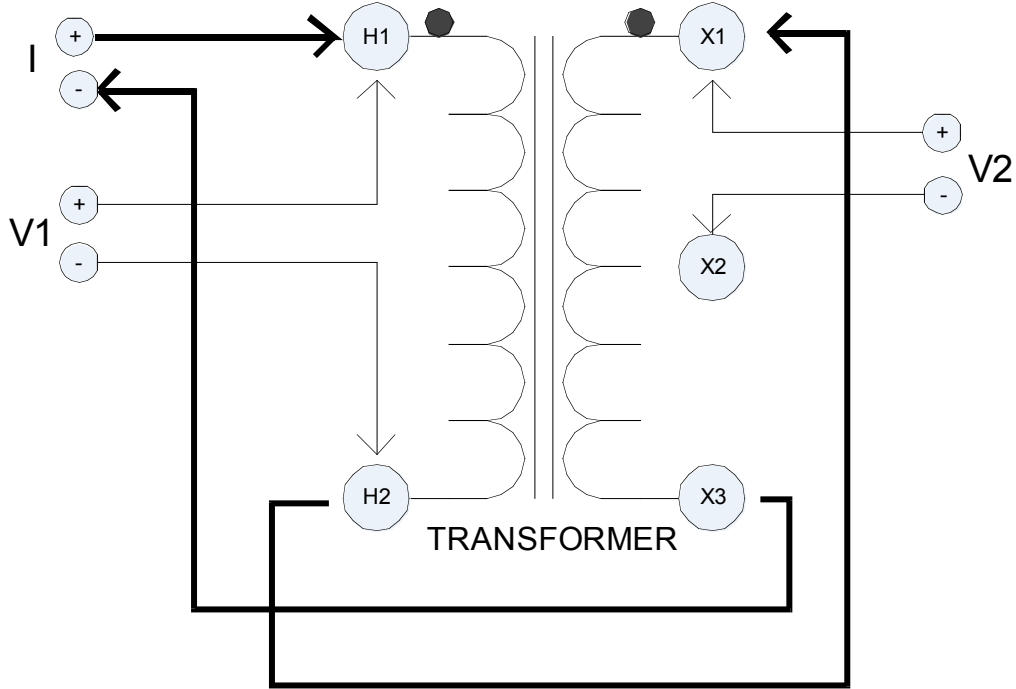

Figure 3: Dual-Winding Test
*NOTES: It should be carefully noted that the jumper in Figure 3 be connected to opposite polarities of transformer to reduce transformer core saturation time.*
- 4. Connect "V1" voltage leads input to H1 and H2 terminals of test transformer. See Figure 3.
- 5. Connect "V2" voltage leads input to X1 and X2 terminals of test transformer. See Figure 3.
Connect current leads (I) to test specimen winding. See Figure 3. Add the Jumper Cable from H2 to X1. This will allow current to flow from the primary winding to the secondary winding. **Voltage leads should always be placed inside (between) current leads and the transformer.** See Figure 3.